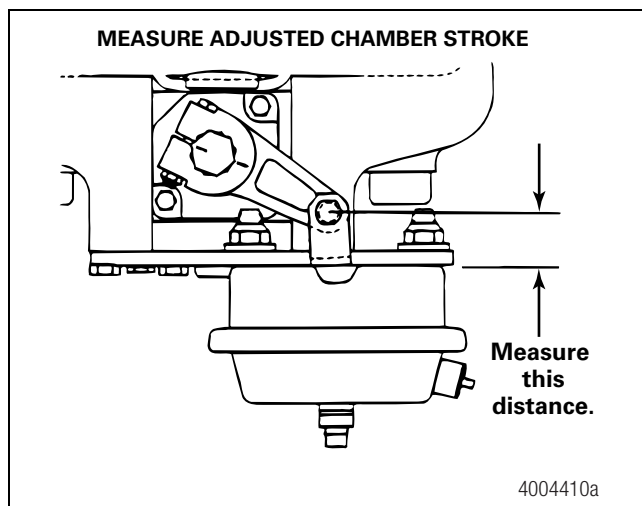

Figure 1
4. Measure the distance from the bottom of the air chamber to the center of the clevis pin while the brakes are released. This distance should be approximately 1.46-inches (37 mm). Figure 1.